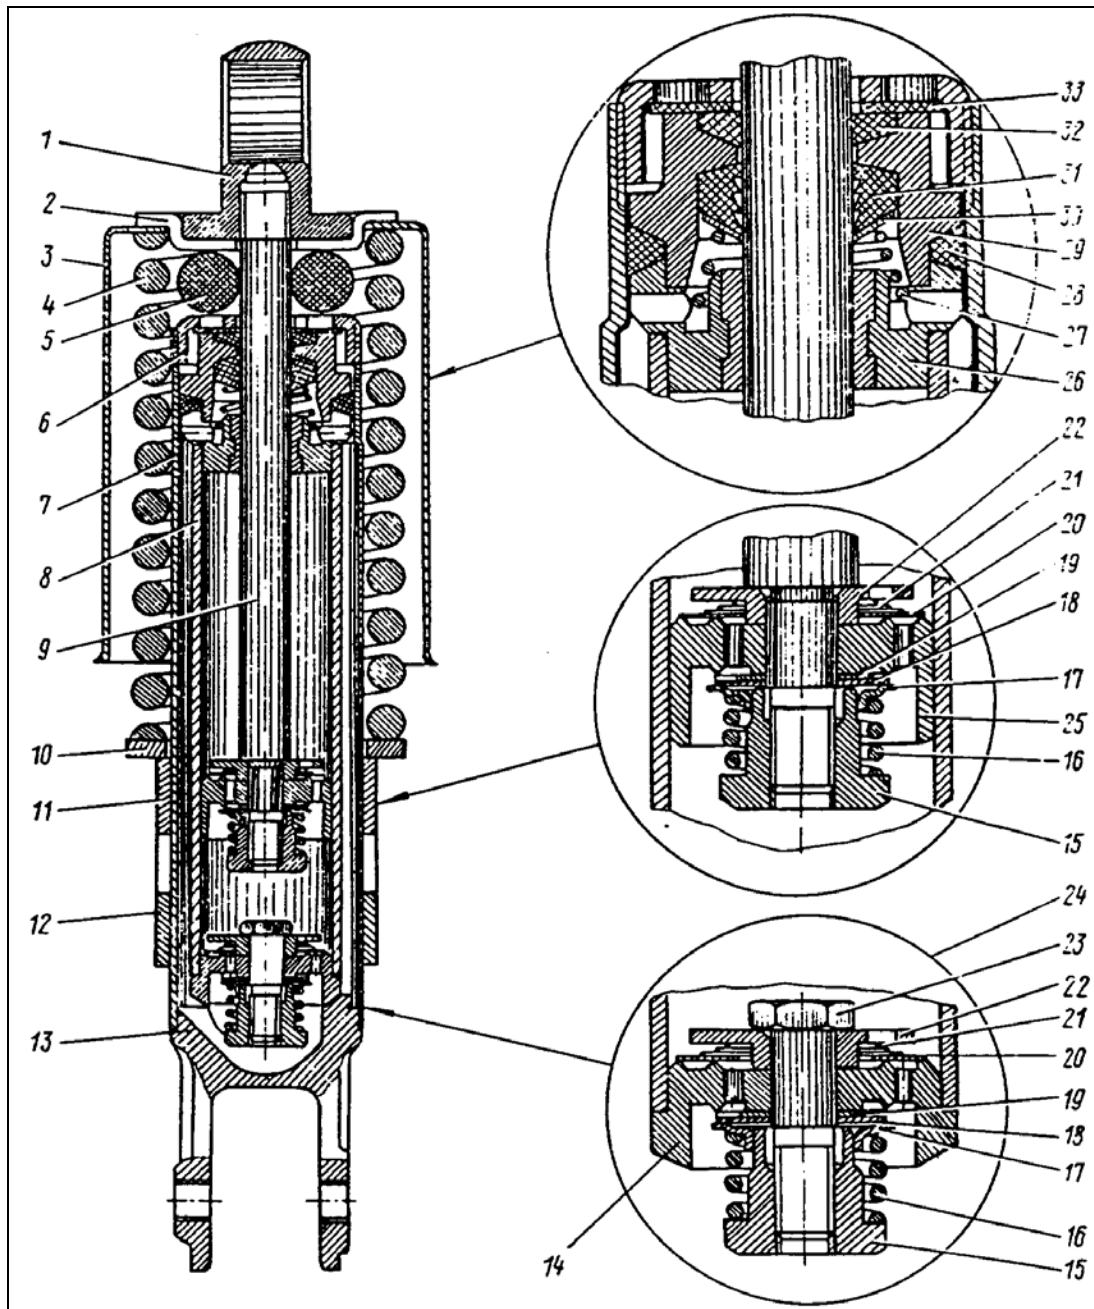

Figure 2.6-2 Spring-Loaded Hydraulic Shock Absorber
Suspension (except for front tubular forks) is by hydraulic shock absorbers with external coil springs (Fig. 2.6-2). The supporting spring (4) serves as an elastic element of the suspension, while its oscillations are damped by the double-acting hydraulic absorber enclosed in body (7).